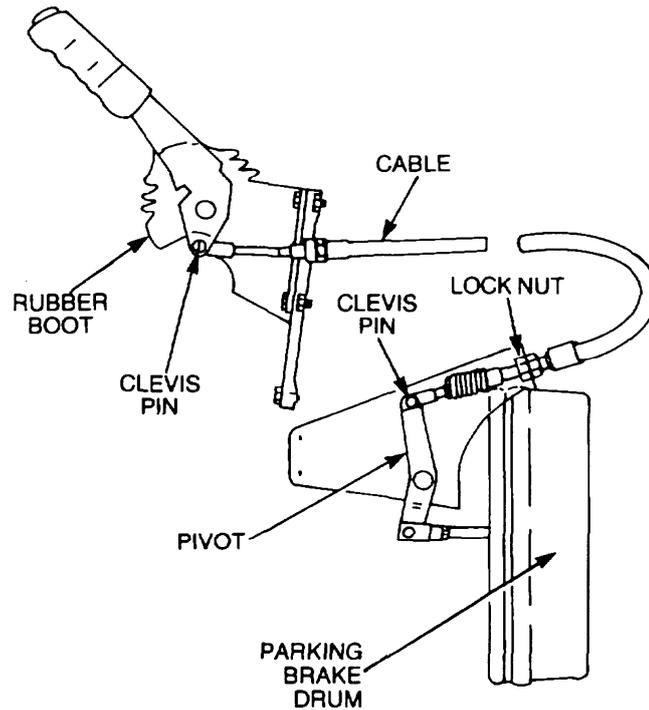

Figure 133 Parking Brake Cable Replacement
- b. Remove the split pin and clevis pin securing the cable to the pivot under the vehicle (Figure 133). Discard the split pin.